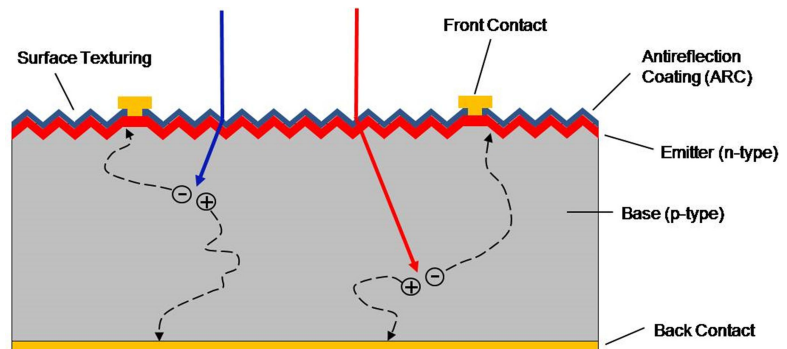

Figure 1.16: Typical structure of solar cell
The basic solar cell is a semiconductor wafer grown or deposited on a conducting substrate. The area of a solar cell is usually in the range of 10 cm² to 100 cm². The front surface is usually coated with anti-reflective (AR) material and contacted with a fine metal grid. Cells are usually connected in series to deliver a useful voltage (12 V standard) before being encapsulated into modules. A typical device structure is shown in Figure 1.16.